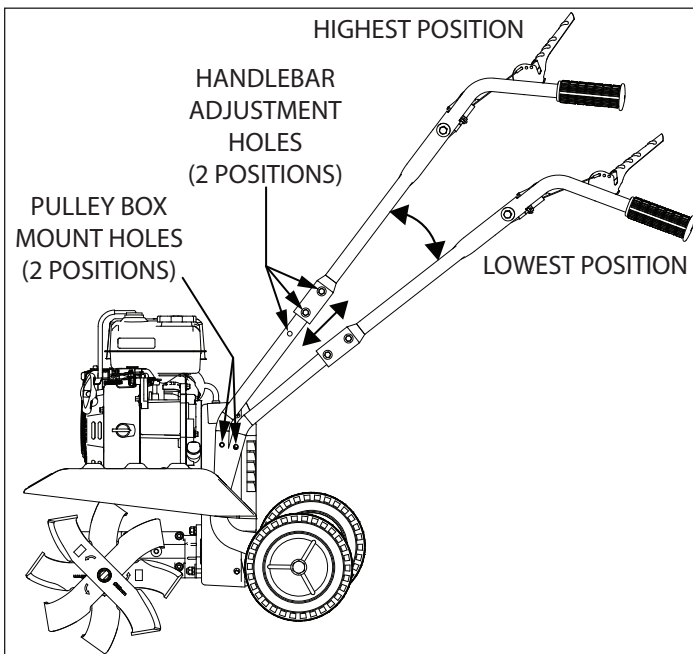

FIGURE 15
SEE FIGURE 15 ON PAGE 14
13. Align right handlebar mount holes with lower handlebar assembly mount holes at one of two height positions. **SEE FIGURE 15** Secure right handlebar with two M8
Handlebar height can be adjusted in two ways to accommodate a total of four possible user heights. **SEE FIGURE 15**